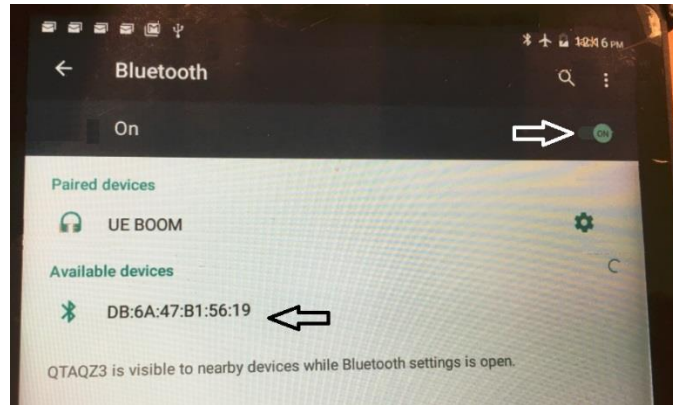

Figure 13, Bluetooth Pair Menu
4. Turn on the Bluetooth by clicking or toggling the setting to **on** in the upper right corner (see figure 13).
5. Select the **ELM327** under the **available devices**, it may not be named "ELM327" figure 13 shows the device name as "DB:6A:47:b:56:19". To eliminate any confusion you may want to disable all other Bluetooth devices.
8. Once paired the device will appear under **Paired Devices** (See Figure 13).